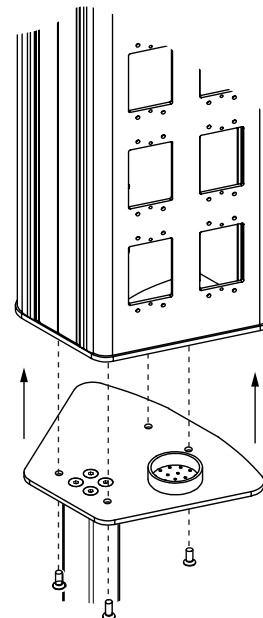

Figure 3. Attach the bottom plate
3. Attach the plate to the bottom of the carrier (Figure 3). Align the four corner holes with the holes at the bottom of the carrier. Use an impact driver with a #2 Phillip's head bit to screw the plate to the carrier with four M8 x 20 countersunk screws.